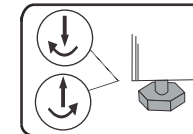

Fig. 1
- Step 4 : Rotate the two front levelers, provided below your refrigerator, clockwise to raise the front and anticlockwise to lower it (refer Fig 1). The front should be slightly above the rear so that the door shuts gently when left open.